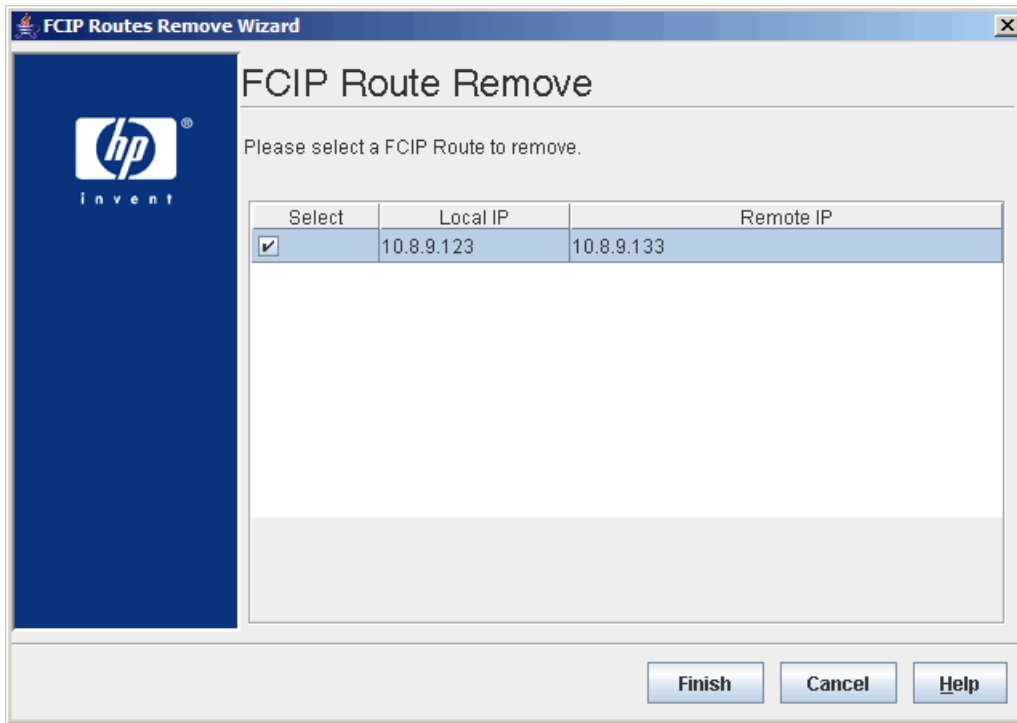

Figure 43 FCIP route remove Wizard—route selection dialog box
2. Enter the FCIP route to be removed per the **Route Remove Selection** dialog box, see Figure 43.